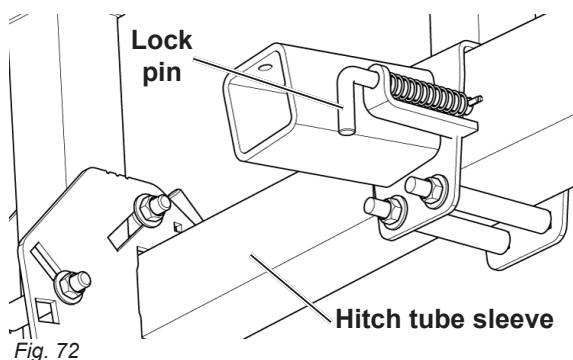

Fig. 72
7. Pull the lock pin on hitch tube sleeve, and then pull the hitch tube out of the hitch tube sleeve. Reinsert the lock pin to secure the tube. ("Fig. 72")